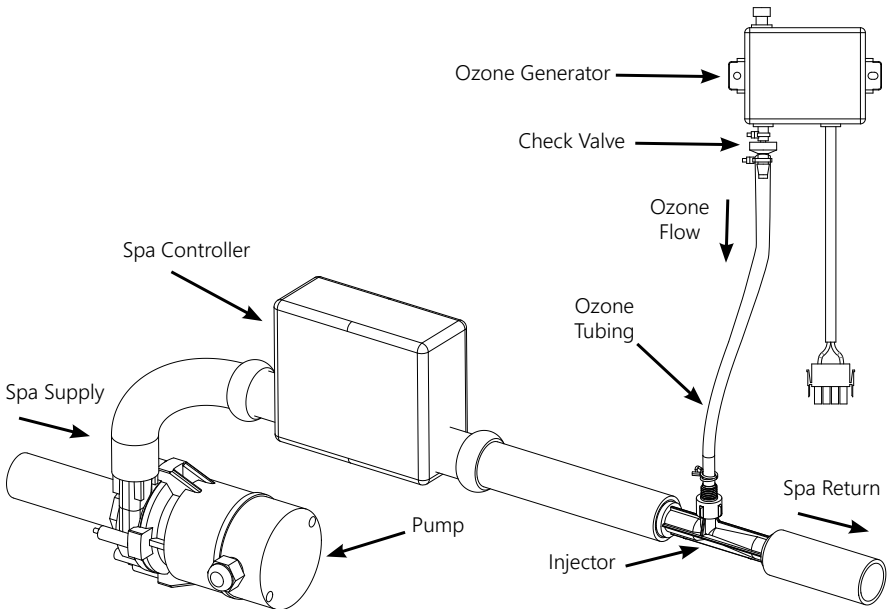

Figure 1: DEL Ozone Typical Mixing System
- a. For optimal dissolution of ozone into the water, install the DEL mixing system in the water circulation line as generally shown in Figure 1.